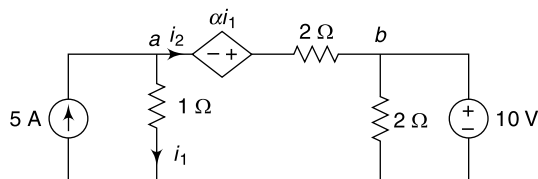

Fig. 4.146 Circuit of Ex. 4.115
4.115 Using node analysis find the value of α for the circuit shown in Fig. 4.146 when the power loss in the 1Ω resistor is 9 W .